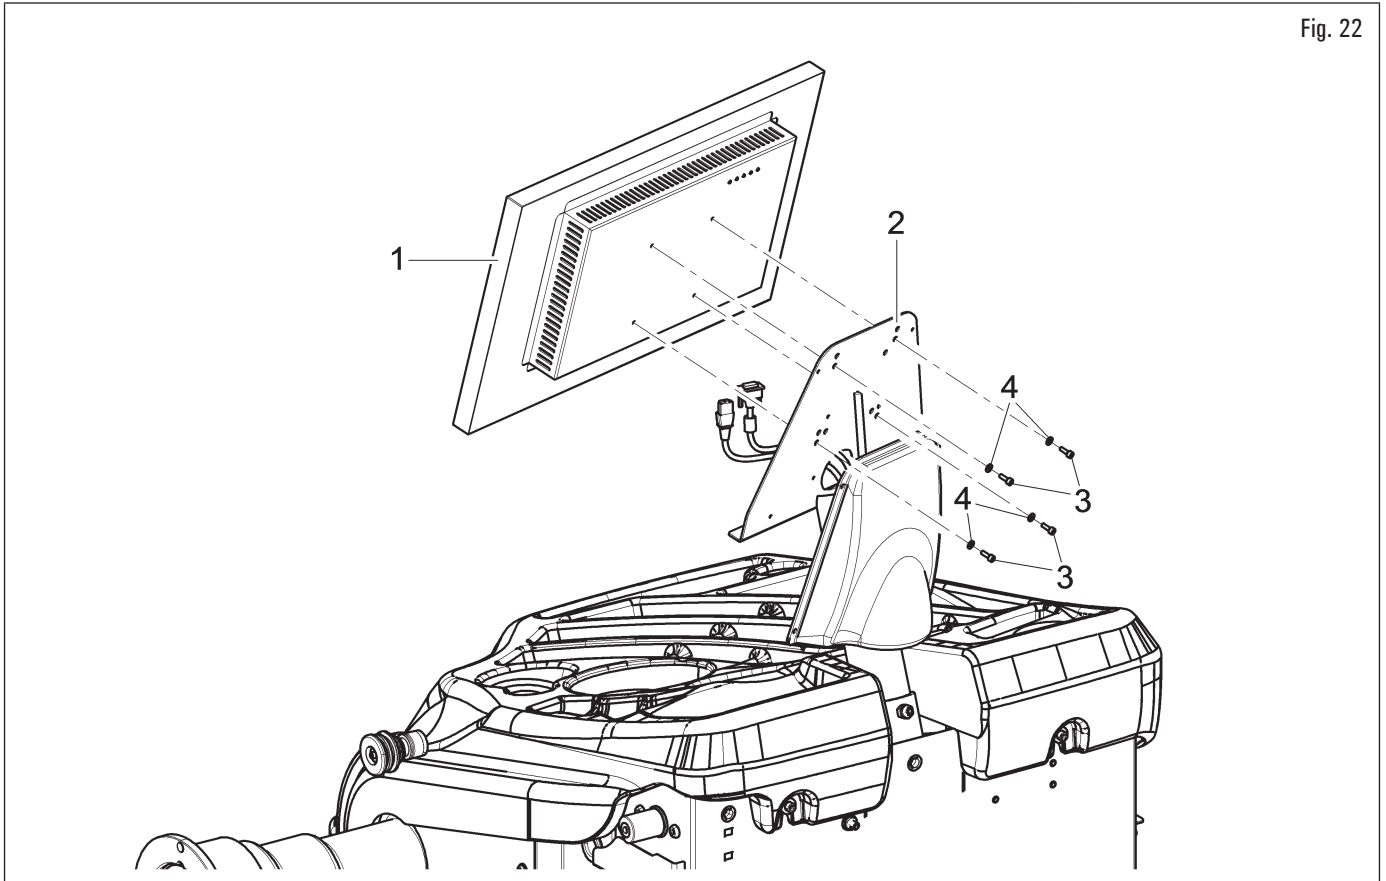

Fig. 22
3. secure the monitor (Fig. 22 ref. 1) to the support (Fig. 22 ref. 2) with the bolts (Fig. 22 ref. 3) and the washers (Fig. 22 ref. 4), supplied;